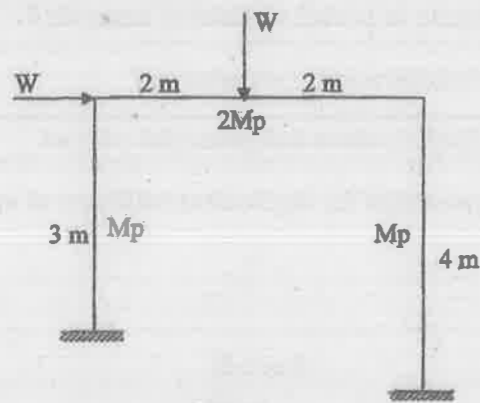

Fig. 2
12. Determine the collapse load for the frame shown in Fig.2.